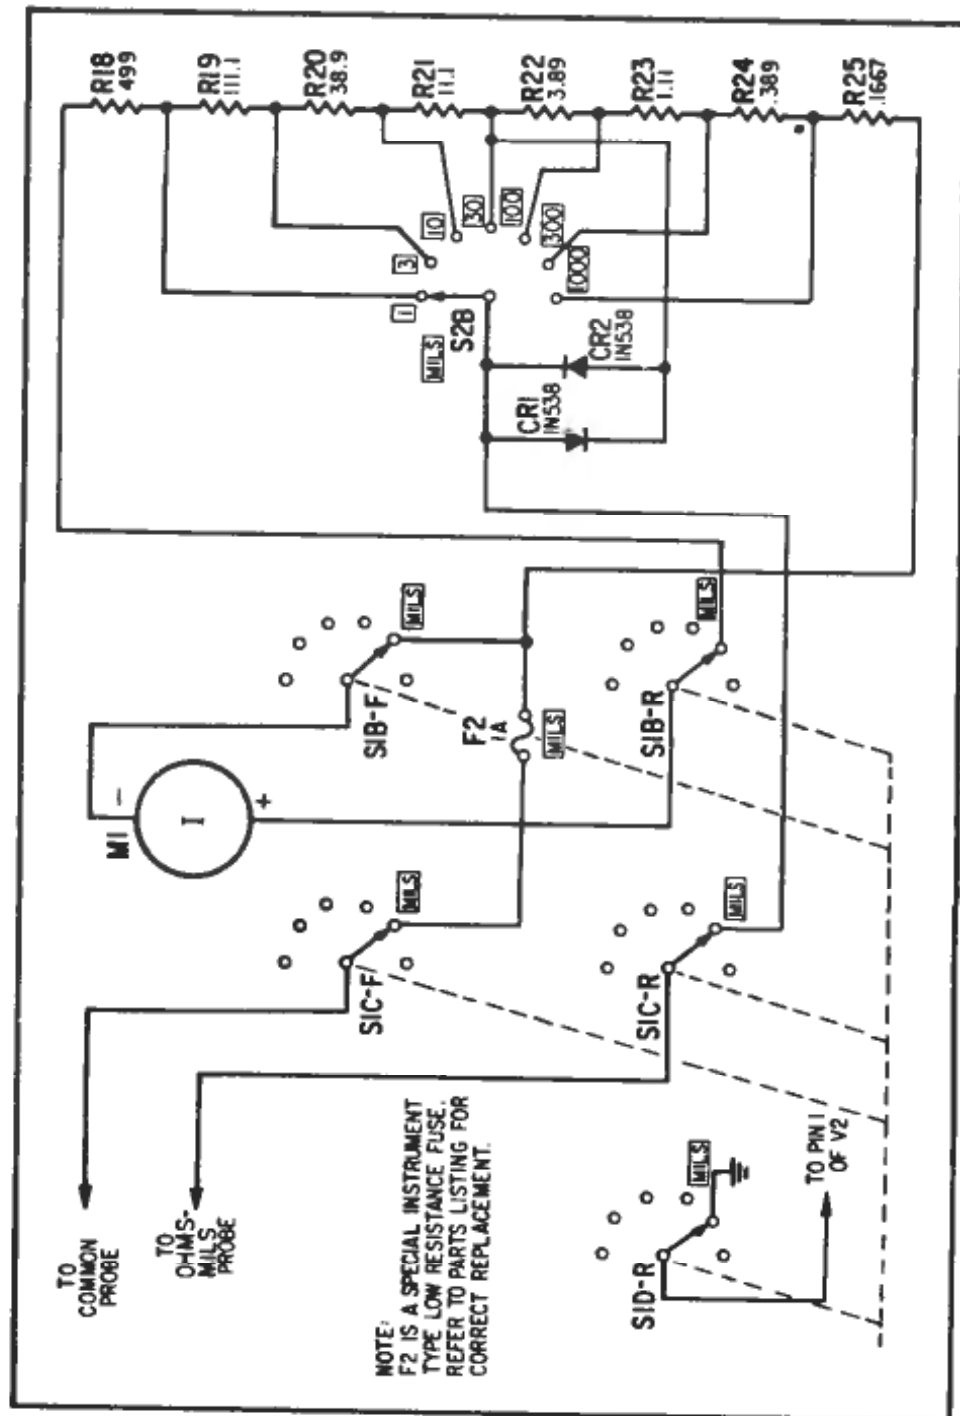

Figure 4-6. DC Milliampere Circuit, Schematic Diagram
e. DC MILLIAMPERE CIRCUIT (see figure 4-6). DC current up to 1,000 milliamperes can be measured. For measurement of current flow the COM and OHMS-MILS probes are connected in series with the circuit under test. The current flows to switch S1, then through fuse F2 to meter M1. The meter is connected in parallel with the resistors in the mils attenuator. Two high-resistance diodes (CR1 and CR2) and connected in parallel across the low resistance precision resistors; one in the forward direction, the other in the reverse direction. When a current in excess of 1,000 ma is applied, the diodes pass this current allowing time for fuse F2 to open circuit. This prevents any damage to the meter and to the shunt precision resistors. Under normal operating conditions the diodes act as open circuits and do not conduct.